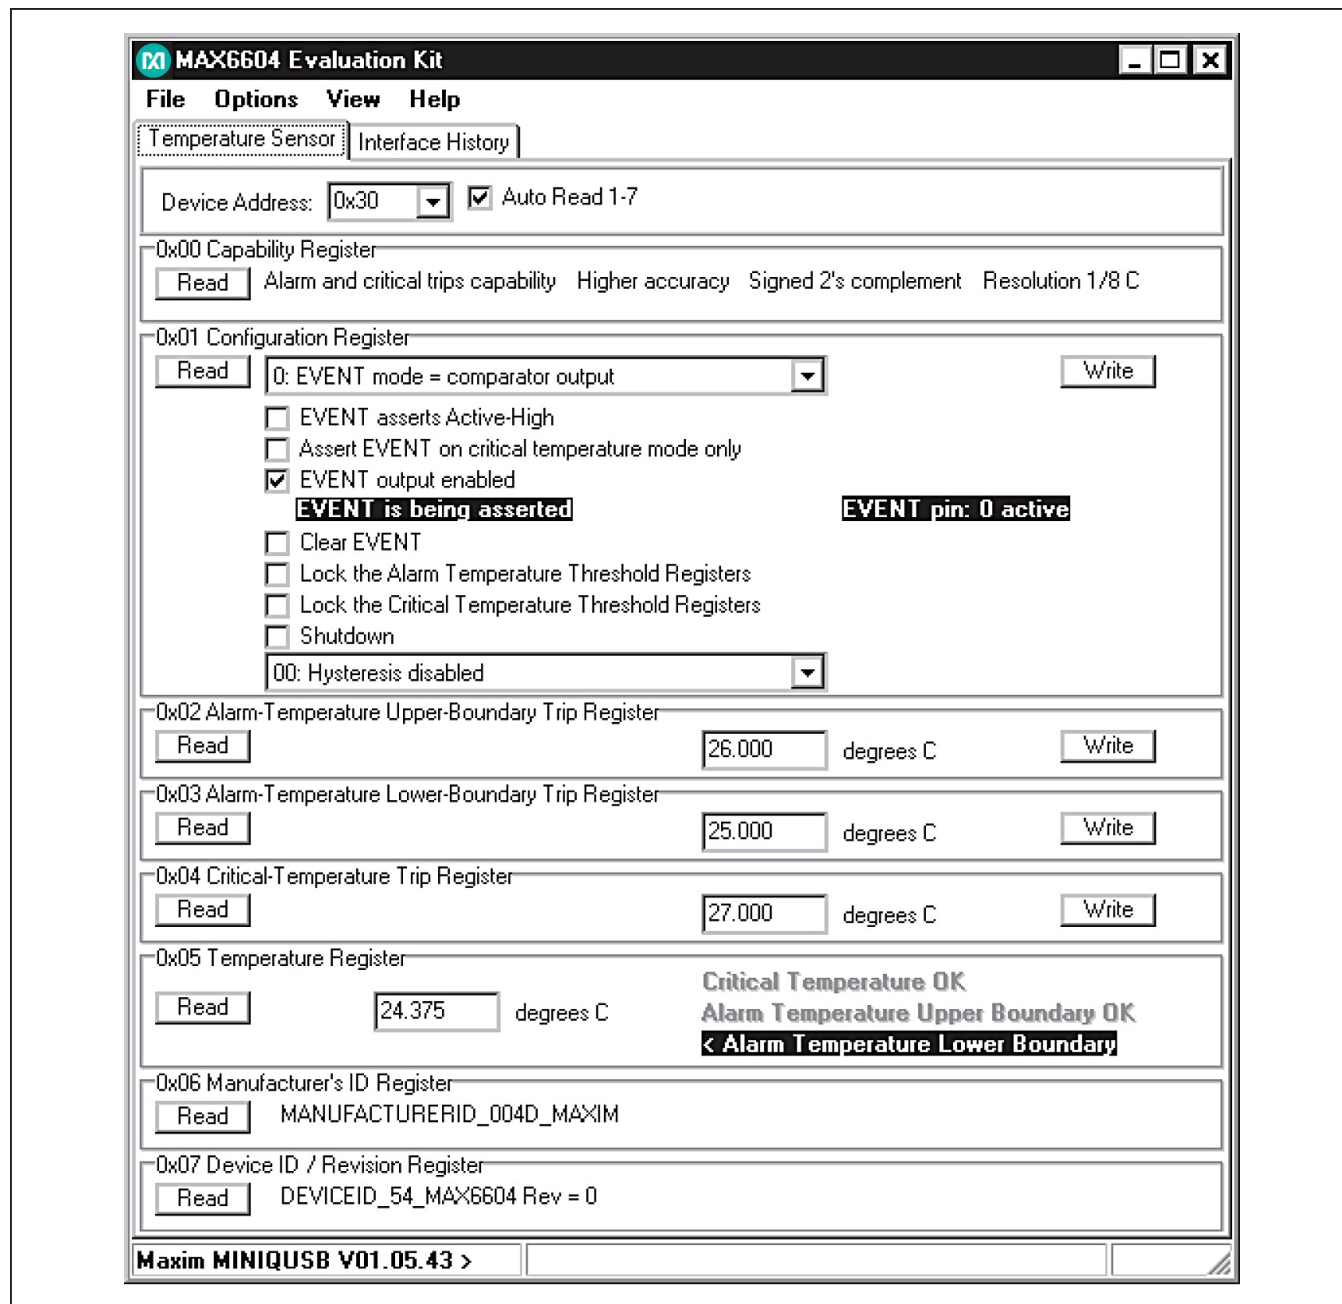

Figure 1. MAX6604 EV Kit Software Main Window (Temperature Sensor Tab)
- 6) Start the MAX6604 EV kit software by opening its icon in the **Start | Programs** menu. The EV kit software main window appears, as shown in Figure 1.
thresholds. The alarm is indicated by the INT pin being asserted and by the status indicators in the **0x05 Temperature Register** group box (alarm can also be tested by setting the threshold value below the measured temperature, as shown in Figure 1).
The main window of the evaluation software (Figure 1) displays the registers of the MAX6604 temperature sensor. Each register has a **Read** button, and each writeable register has a **Write** button. The status of the EVENT output pin is displayed inside the **0x01 Configuration Register group box**, next to the **EVENT output enabled** checkbox.
The **Temperature Sensor** tab sheet displays the temperature sensor registers of the MAX6604 (Figure 1). Each register has its own **Read** button, and each writeable register has a **Write** button. The **Auto Read 1-7** checkbox enables periodic polling of all register values. The software determines the **Device Address** when first starting up, by searching all eight possible I2C device addresses. This value must be manually changed if the JU1, JU2, and JU3 address-select jumpers are changed while the program is running.